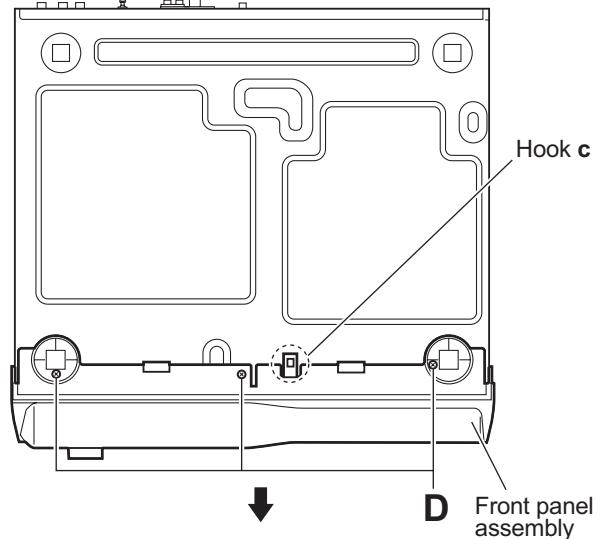

Fig.6
- (4) From the bottom side of the main body, remove the three screws **D** attaching the front panel assembly. (See Fig.6.)